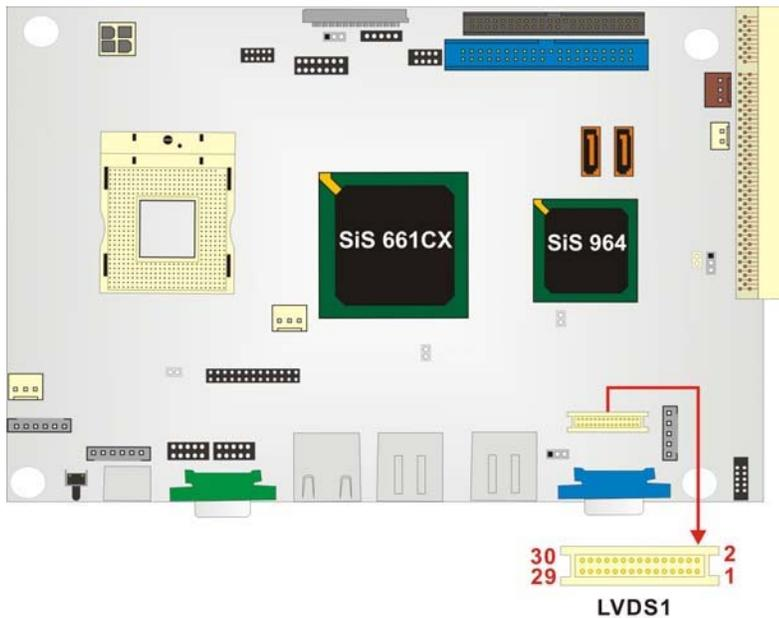

Figure 3-16: LCD LVDS Connector Pinout Locations
- CN Location:** See Figure 3-16